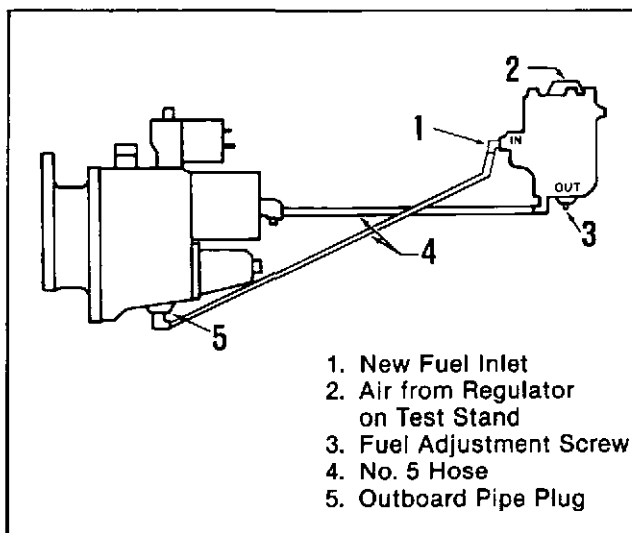

Fig. 16-7, (F5245). Aneroid fuel lines for a PT (type G) fuel pump.
2. Connect the aneroid to the fuel pump, Figs. 16-7 and 16-8.
1. Standard automotive PT (type G) and VS, Fig. 16-7.